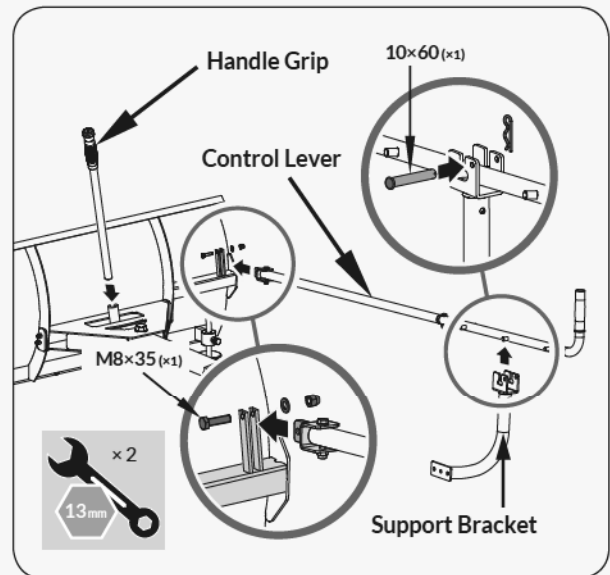

Figure 3d
6. Secure the support bracket into the control lever with pin 10×60 and bridge clip. (See **Figure 3d**)